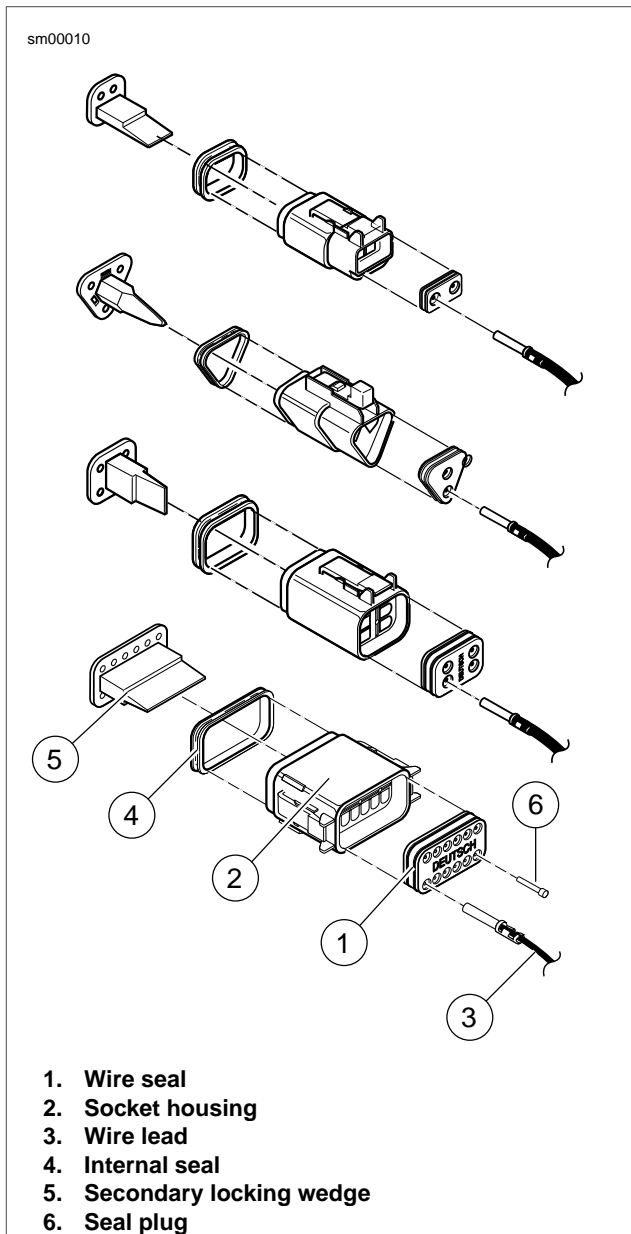

Figure A-20. Deutsch Connector: 2, 3, 4 and 12-Place Socket Housings
- See Figure A-20. Fit rear wire seal (1) into back of socket housing (2), if removed.
- Grasp wire lead (3) approximately 1.0 in. (25.4 mm) behind the socket terminal. Gently push socket through hole in wire seal into its chambers until it "clicks" in place.